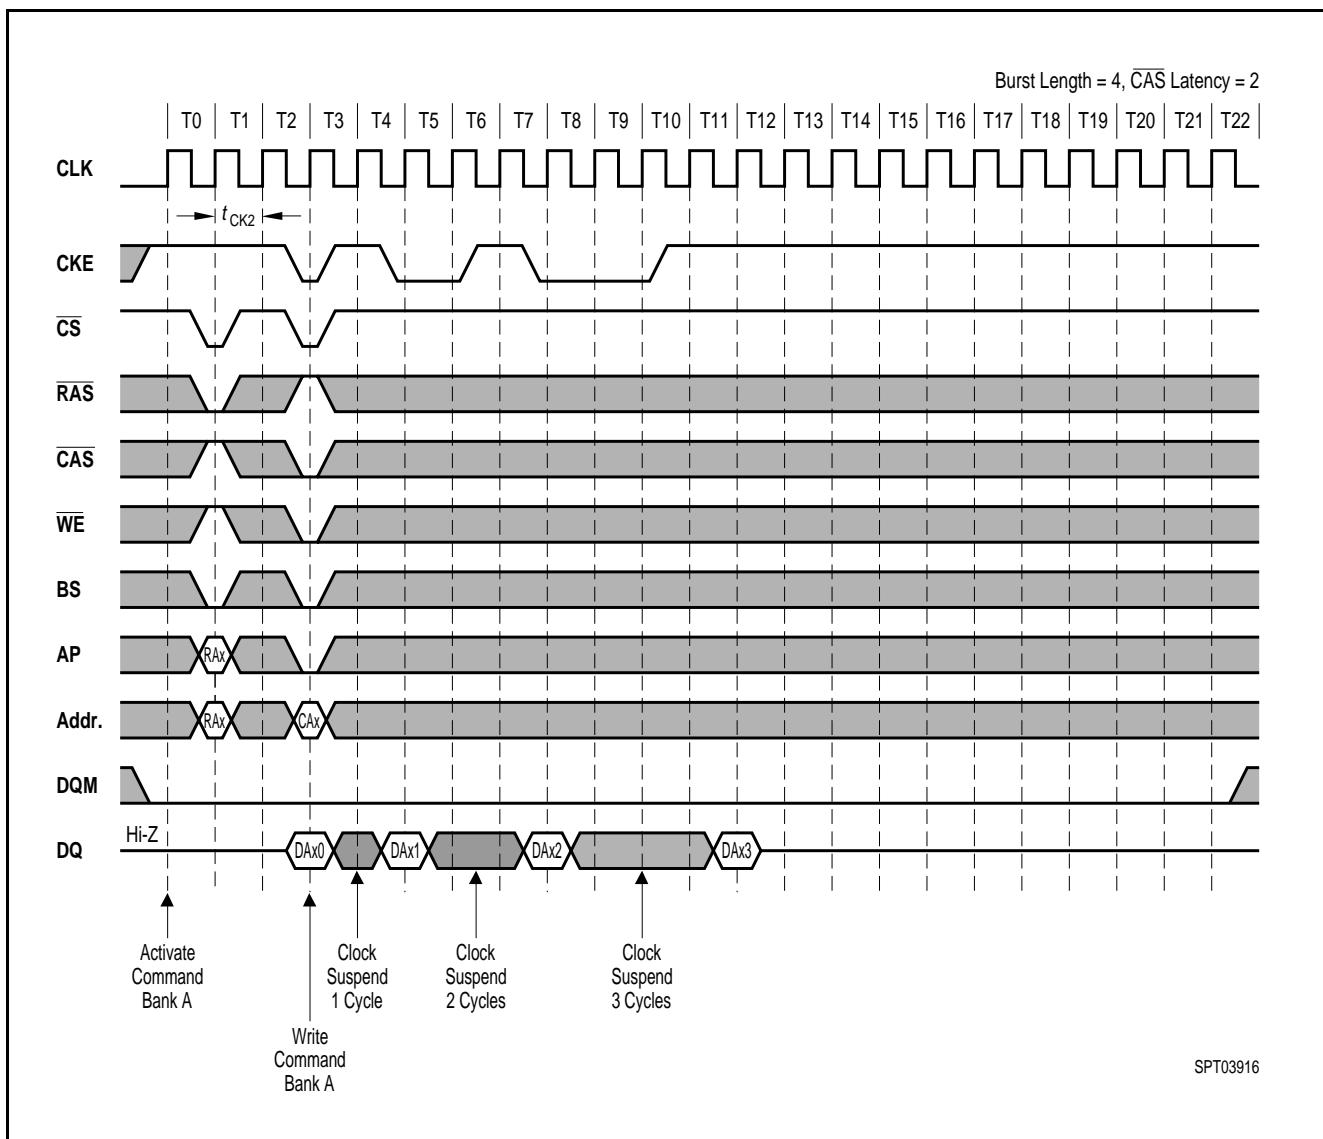

Figure 22 Clock Suspension During Burst Write CAS Latency = 2
- Figure 22 Clock Suspension During Burst Write CAS Latency = 2